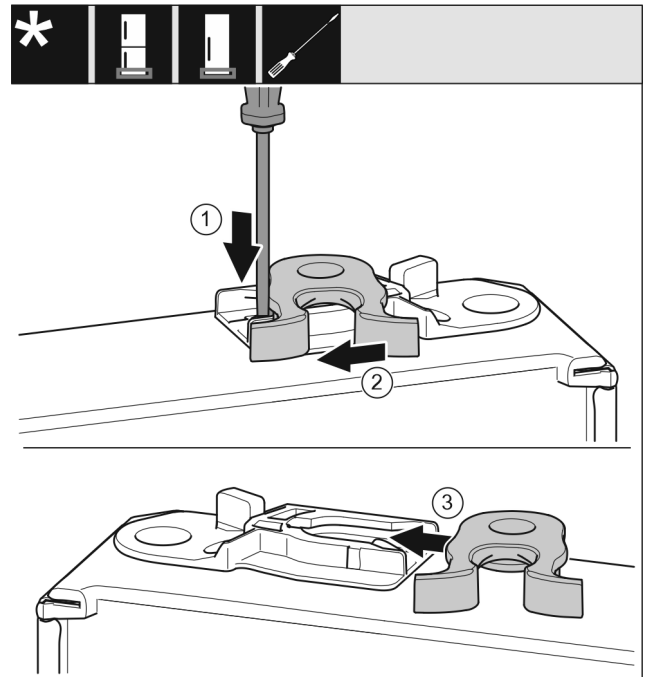

Fig. 13
- ▶ Push the lug downwards with a slotted screwdriver. Fig. 13 (1)
- ▶ Pull the door latch out of the guide. Fig. 13 (2)
- ▶ Push the door latch into the guide on the other side. Fig. 13 (3)